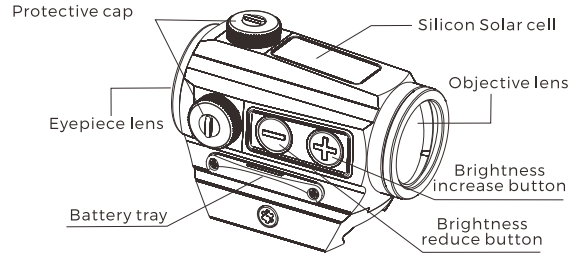

Fig1 PARALOW HS403C Red Dot Sight
3. First open the protective cap (see Fig1), position slot type screwdriver on the slotted screw, then rotate the screw. Each click is equivalent to 0.5 MOA adjustment.